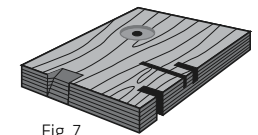

Fig. 7
**Saw Cuts, Drilled Holes and Notches** - Saw cuts across the face or through the edge of the beam, drilled holes or notches will reduce the beam's load carrying capacity. Beams with saw cuts, drilled holes or notches should be removed from service and inspected by a qualified person\* (Fig. 7)